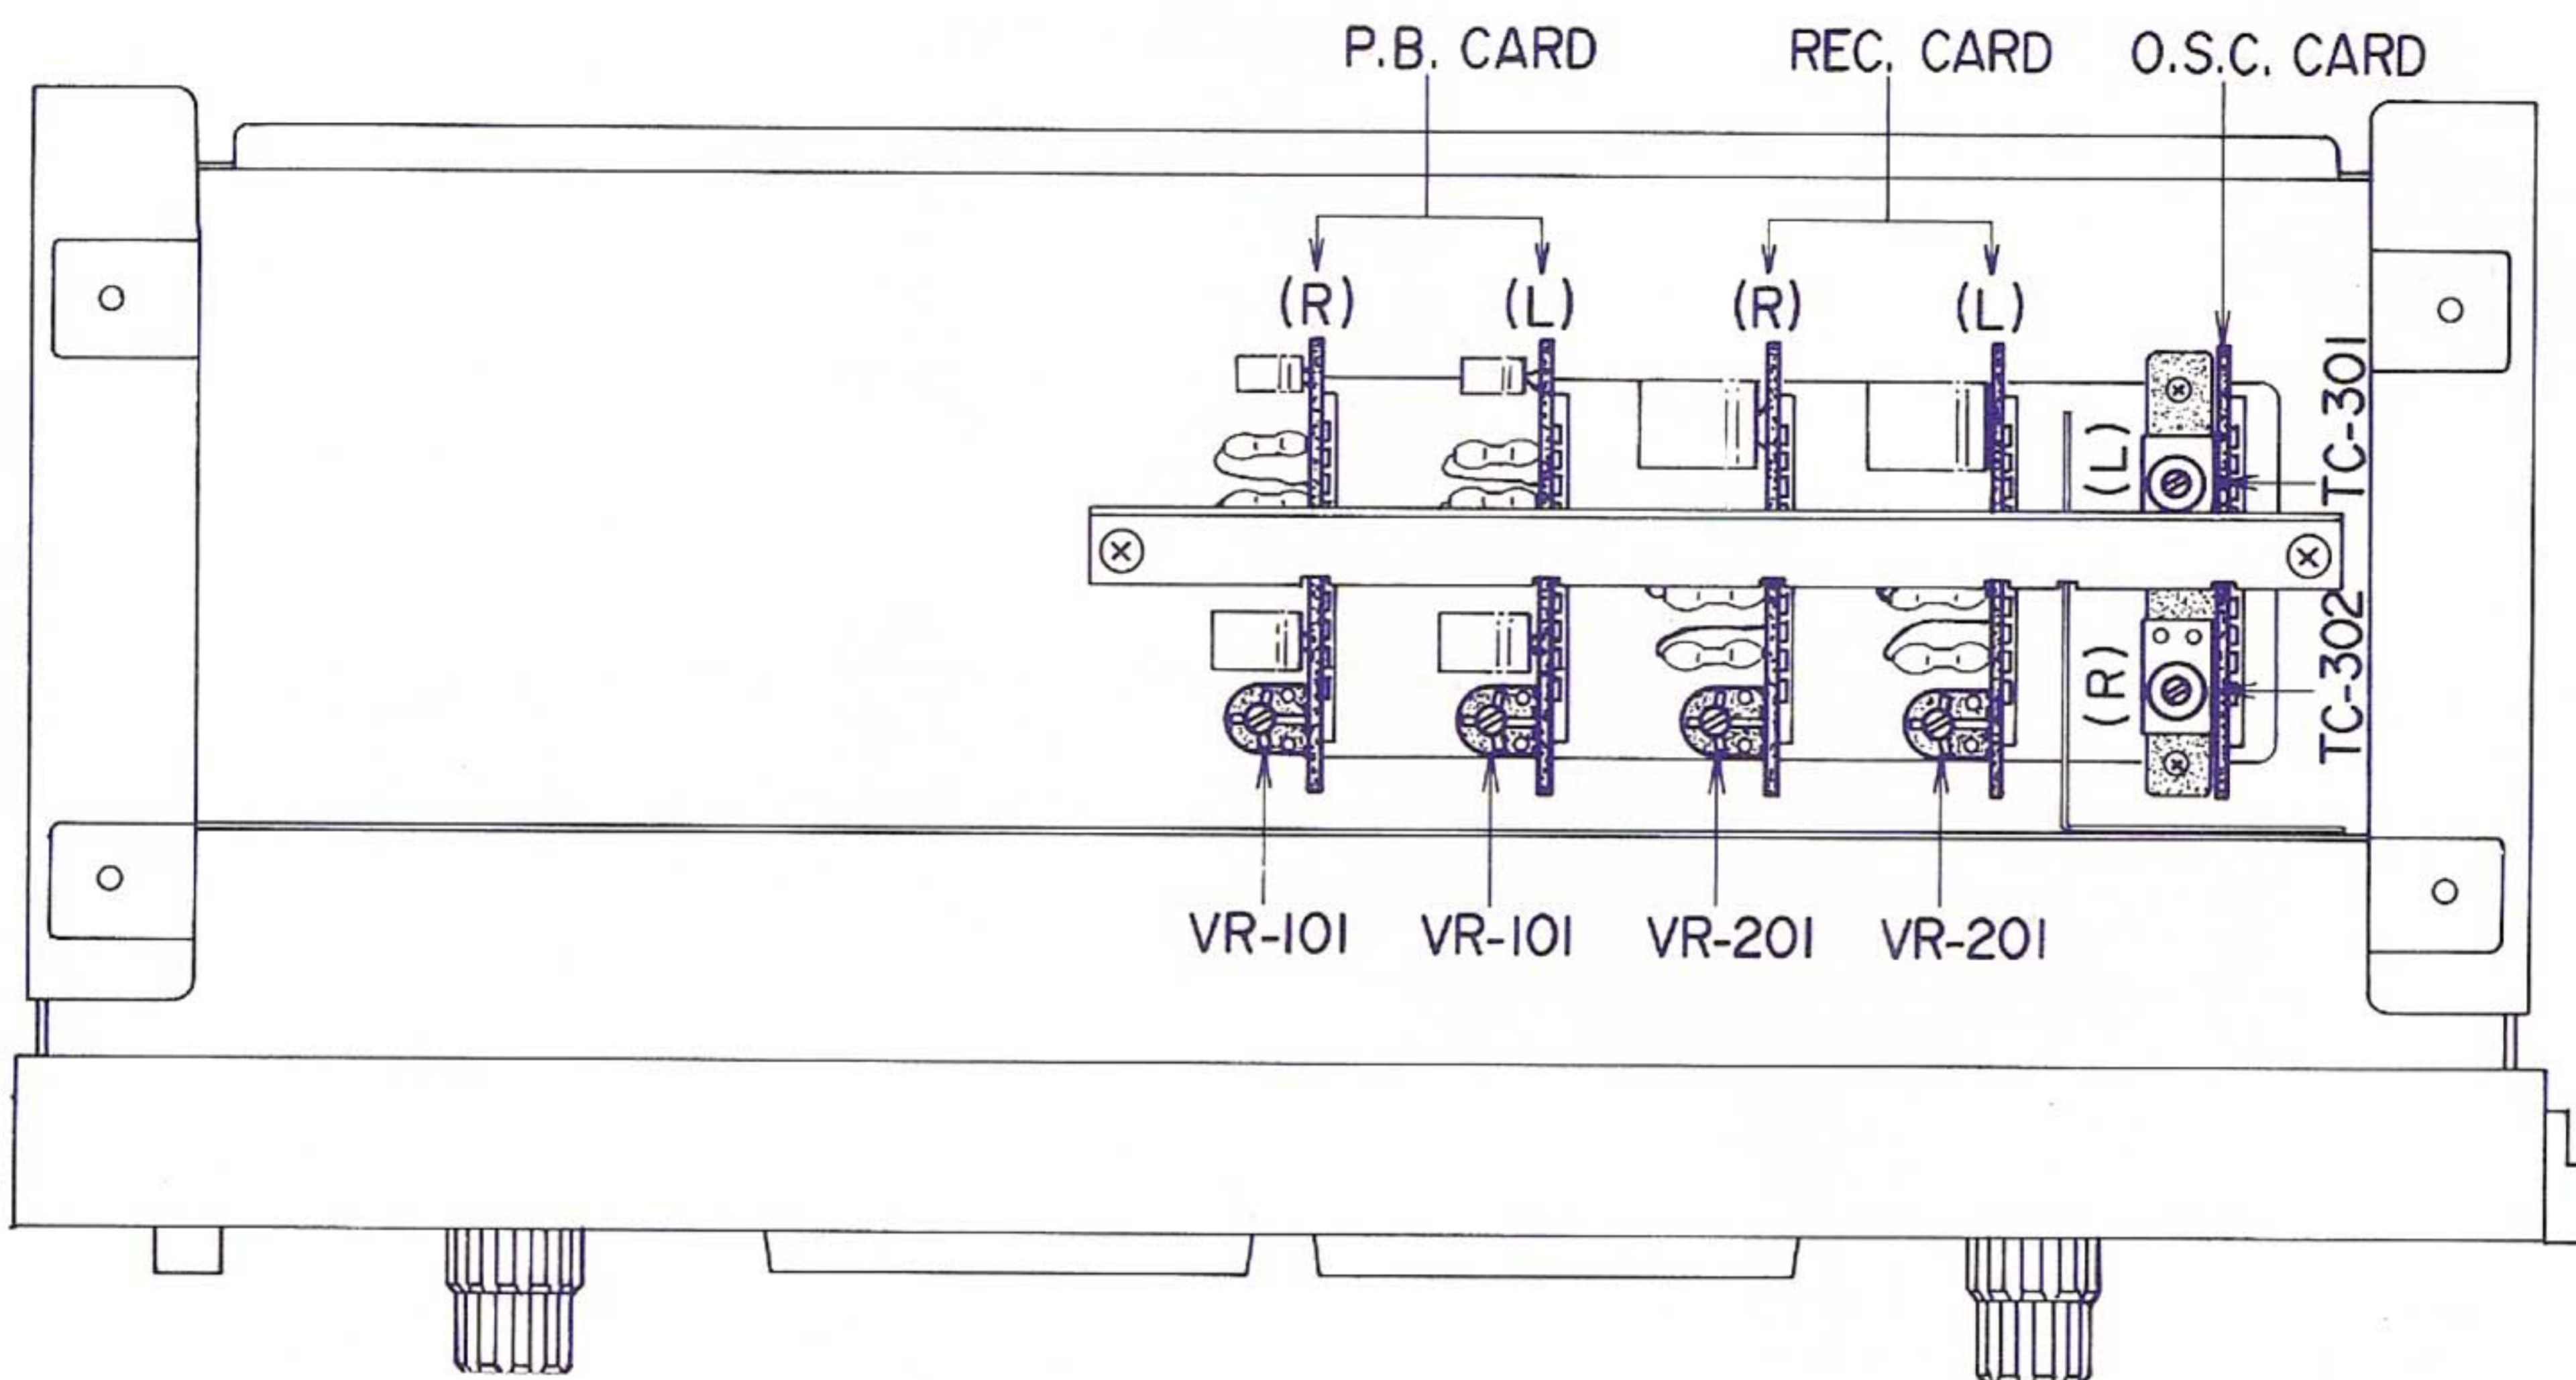

Fig. 7-1
- d) Adjust the VR 101 (semi-fixed resistor 20 KB, Fig. 7-1 of the pre-amplifier so that Line Output Voltage indicates 1.228 V (+4 dBs).